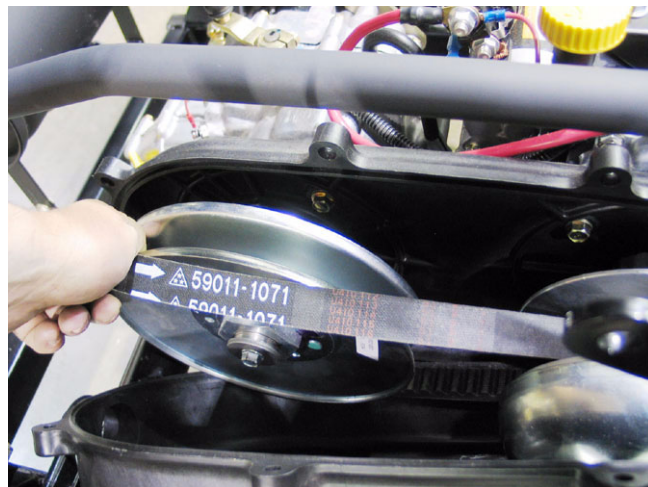

Figure 5.46
5.46. Roll the belt off of the driven pulley on the transaxle. See Figure 5.46.